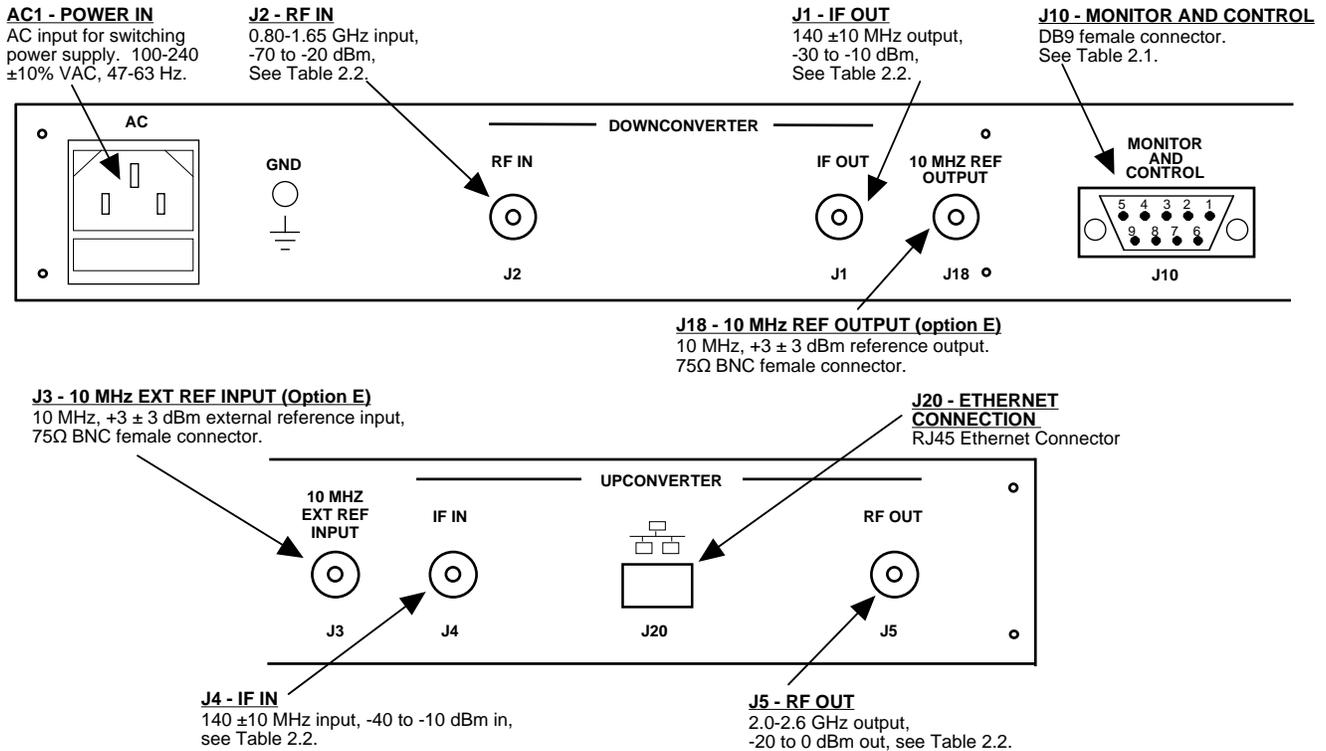

Figure 2.1 Model 2017-1625-140# Rear Panel I/O's
2.2 Rear Panel Input/Output Signals and Control - Figure 2.1 shows the input and output connectors on the rear panel.
- 1.) Connect a -40 dBm to -10 dBm signal to IF In, J4 (Figure 2.1).
- 1.) Connect a -70 dBm to -20 dBm signal to RF In, J2 (Figure 2.1).